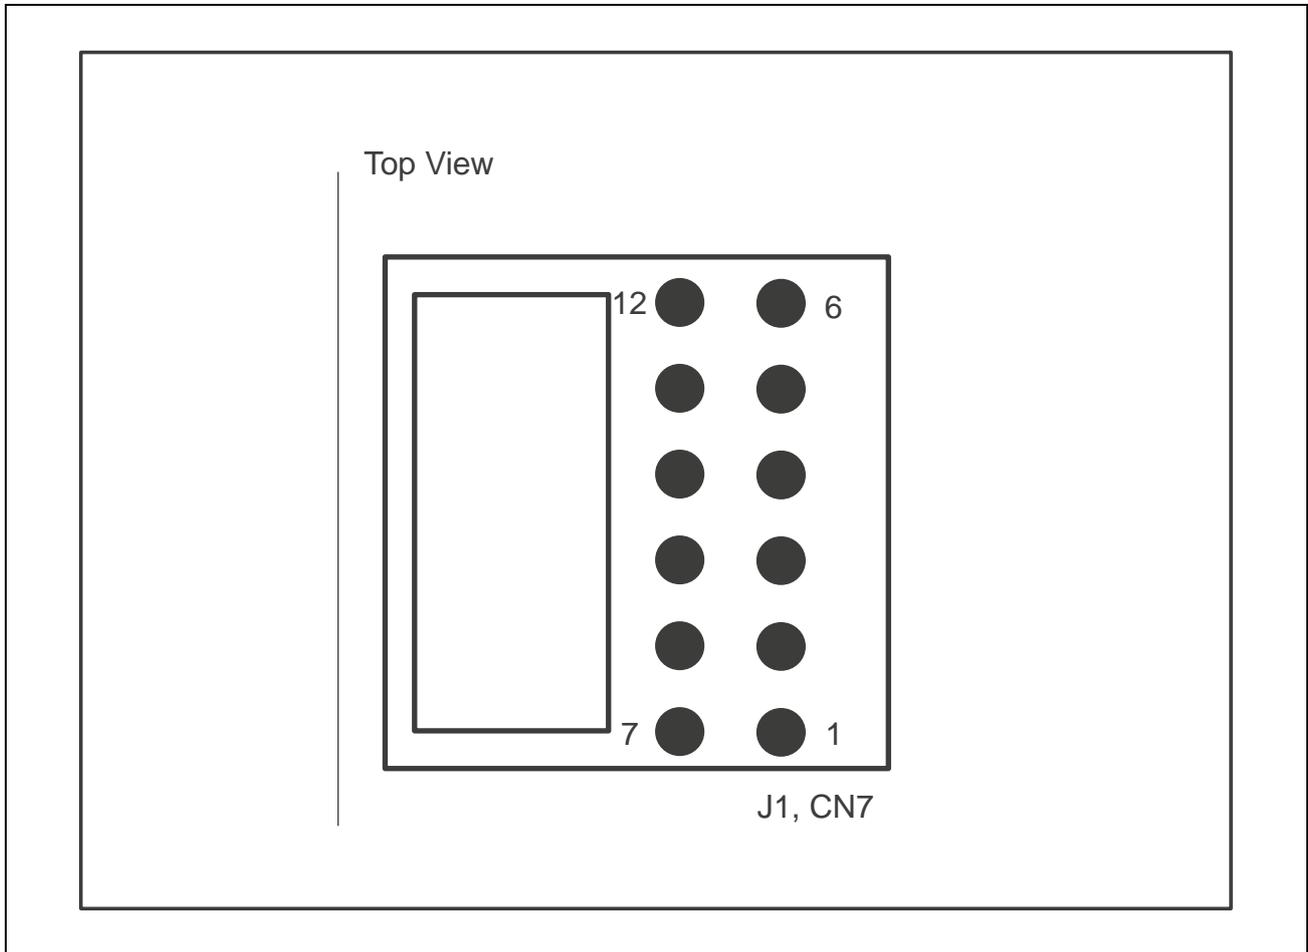

Figure 3.6 PMOD0 Connector (J1, CN7) Pin Layout Diagram
**Figure 3.6** illustrates the layout of PMOD0 connector pins. **Table 3.5** shows the assignment of PMOD0 connector pins.